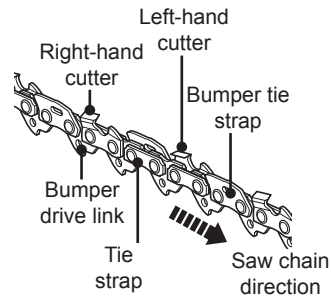

Fig. 45
1. Have the saw chain (12) sharpened professionally at an authorised service centre or sharpen the chain yourself by using a proper sharpening kit. Also observe the sharpening instructions supplied with the sharpening kit.
2. The height difference between the tooth and the ridge is the cutting depth. When sharpening the saw chain (12) you have to consider the following points (Fig. 45).